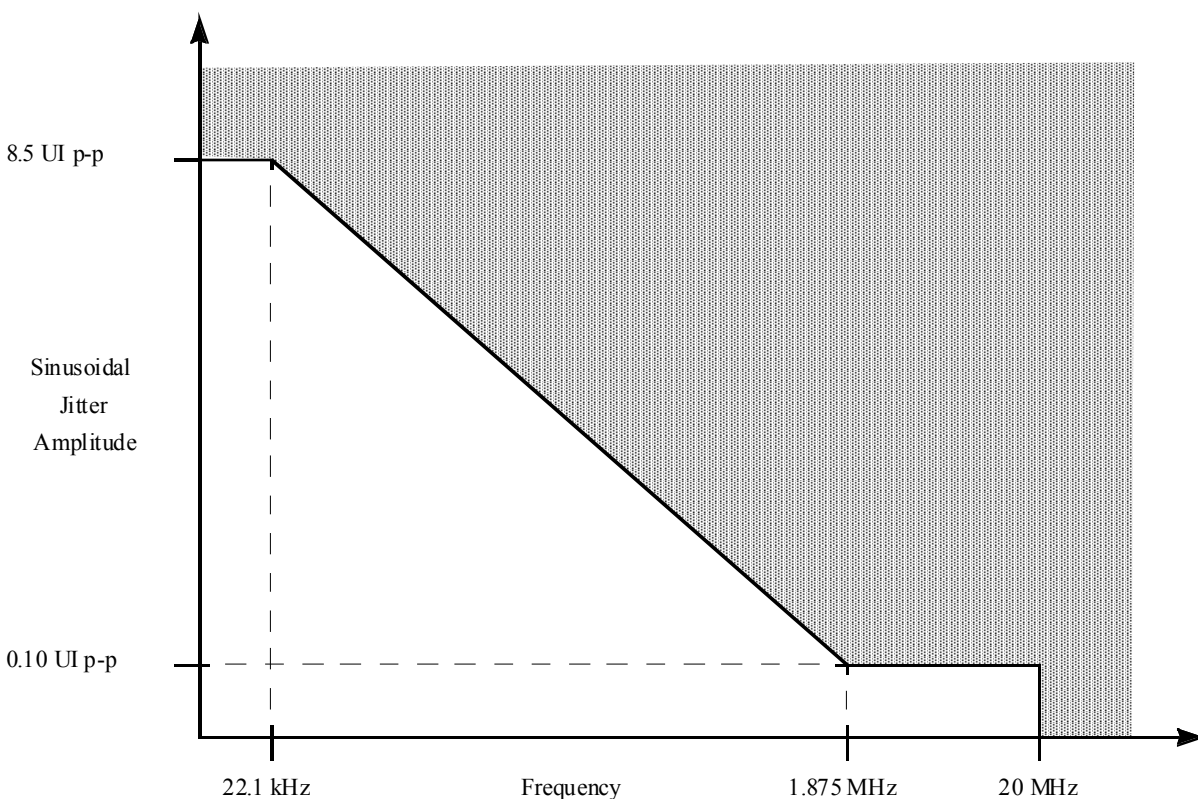

Figure 26. Single Frequency Sinusoidal Jitter Limits
- 2.) See Figure 26 for single frequency sinusoidal jitter limits
The sinusoidal jitter in the total jitter tolerance may have any amplitude and frequency in the unshaded region of Figure 26.